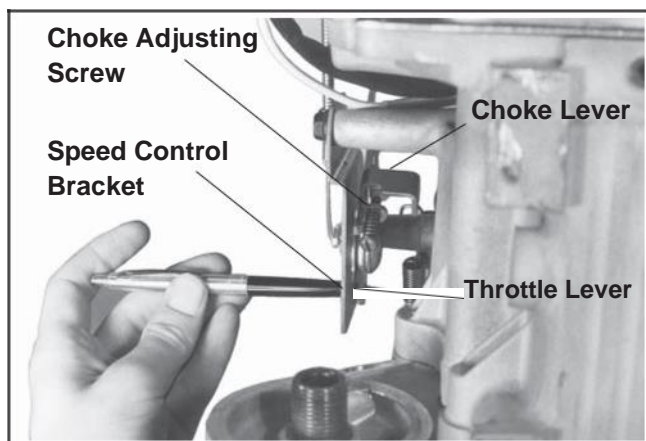

Figure 5-21. Aligning Holes in Speed Control Bracket and Throttle Lever.
3. Align the hole in the throttle lever with the hole in the speed control bracket by inserting a pencil or 6.35 mm (1/4 in.) drill bit. See Figure 5-21.